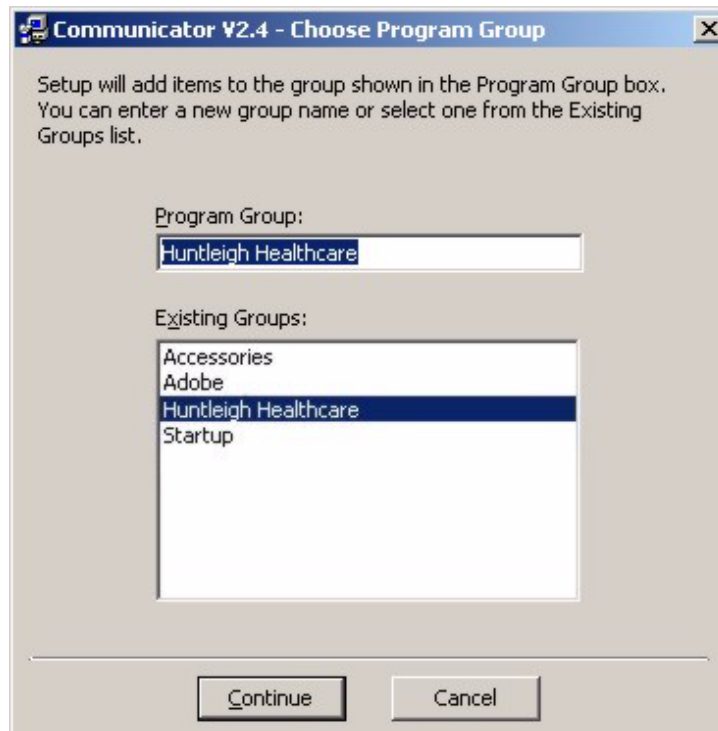

Figure 68 - Communicator Software Installation - Choose Program Group
- 2.10 The default option is already ticked, which will put a shortcut on the PC desktop. Click **OK** and the **Choose Program Group** dialog box will be displayed (refer to Figure 68).